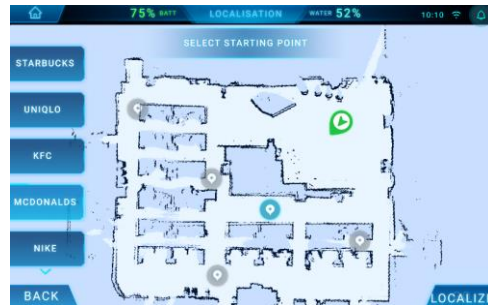

Fig. 1
1. With a properly localized REXSCRUB, the LIDAR scan lines (indicated by points and segments on the map) would closely match map features (displayed as black lines) (as seen in Fig. 1). If the REXSCRUB's scan displayed on the app does not match the map features satisfactorily, the robot can be repositioned slightly to repeat the localization setting.